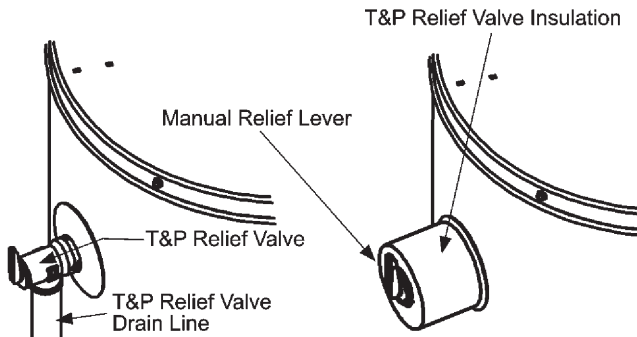

Figure 9. Installing Insulation for the T&P Valve
1. Locate the temperature and pressure relief valve on the water heater (also known as a T&P relief valve). See *Figure 9* (page 15).
3. Spread the slit open and fit the insulation over the T&P relief valve. See *Figure 9* (page 15). Apply gentle pressure to the insulation to ensure that it is fully seated on the T&P Relief Valve. Once seated, secure the insulation with duct tape, electrical tape, or equivalent.
Important: The insulation and tape must not block the discharge opening or hinder access to the manual relief lever. See *Figure 9* (page 15). Ensure a discharge pipe is installed into the T&P valve